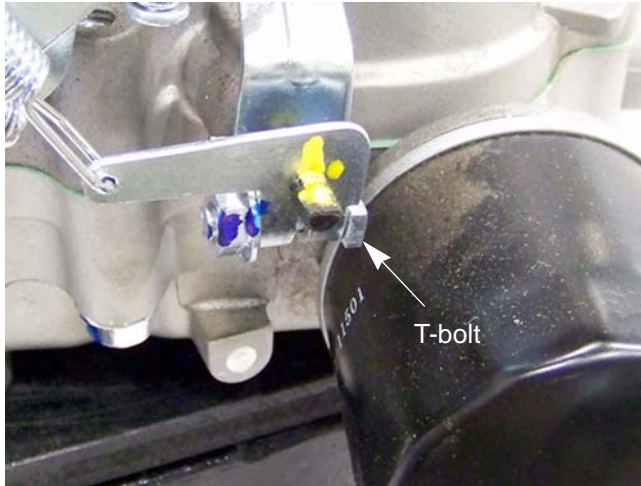

Figure 4.26
8. Put an alignment mark on the governor arm and shaft. See Figure 4.26.
4. Slide the arm onto the shaft. The flat on the top of the shaft should be roughly parallel to the arm that connects to the spring. See Figure 4.26.